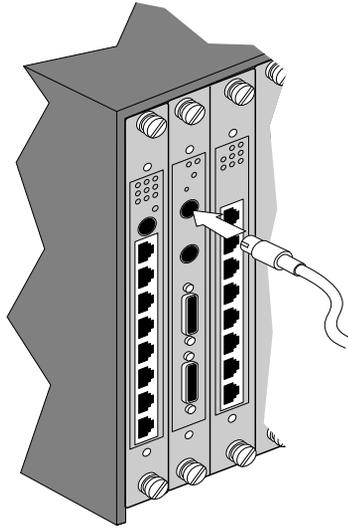

Figure 3-1 Attaching a Terminal Cable to the Console Port
- 1 Install the mini-DIN to DB-25 adapter cable into the circular connector labeled "console" or "auxiliary" on the Edge Router module. Figure 3-1 shows an example of how to connect the cable to the console port.